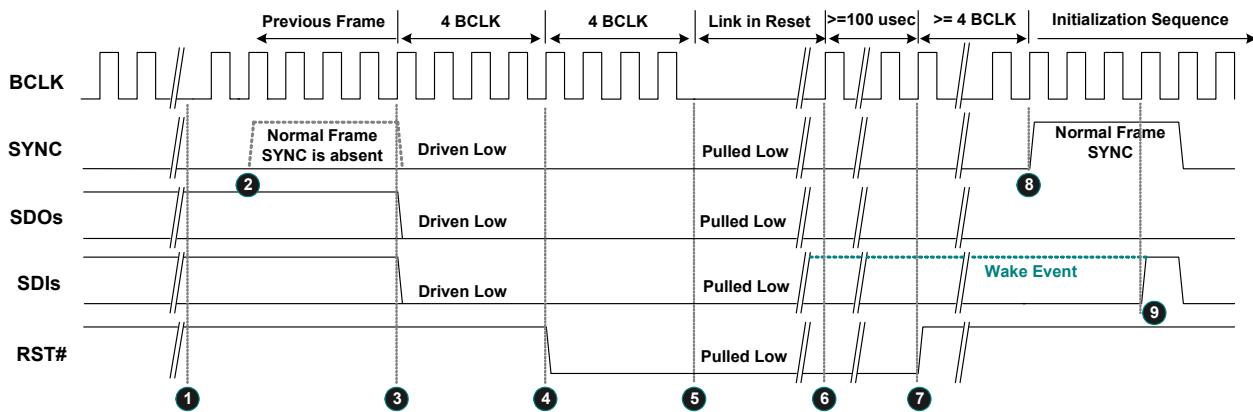

Figure 14. Link Reset Timing
3. Software initiates power management sequences. Figure 14, page 21, shows the ‘Link Reset’ timing including the ‘Enter’ sequence (①~⑤) and ‘Exit’ sequence (⑥~⑨)